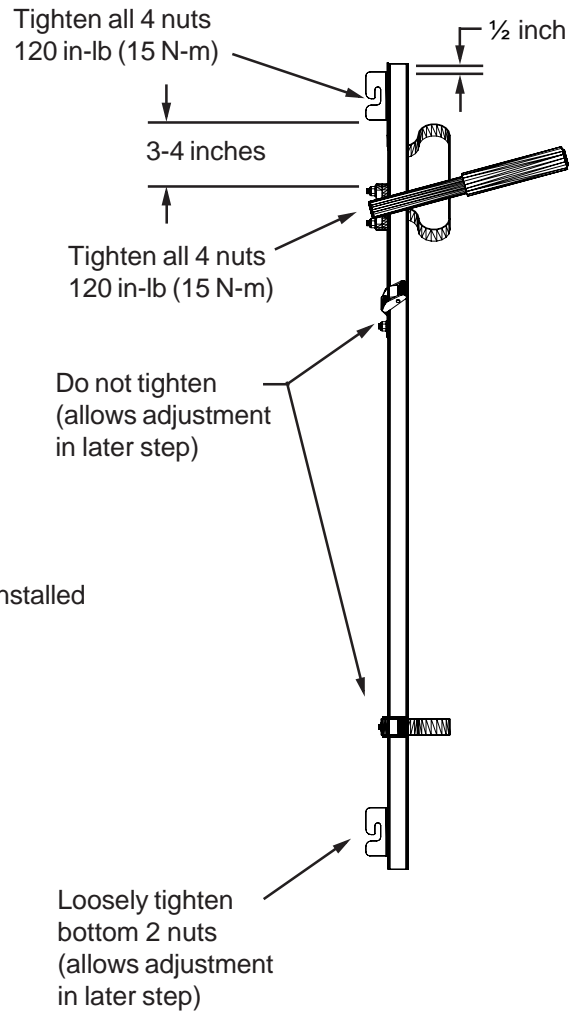

Figure 2B
2.2. Tighten nuts as indicated in Fig 2B.